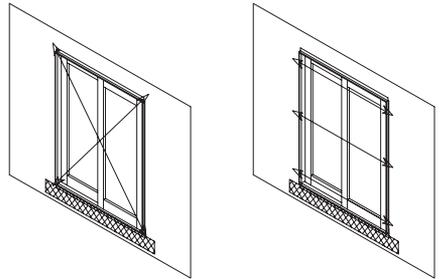

Figure 8
9. With the door set into the rough opening, check to make sure it is centered. Tack the door in place with one 1-1/2" stainless steel screw (or equivalent) in the top nailing flange within 3" - 6" of each corner. Make sure that the sill is straight, flat and level. Use a tape measure to check the diagonal dimensions of the frame to ensure the frame is square (see figure 8). Diagonal measures should be within 1/8". This measure should be double-checked by using a framing square. Shim at the top of the side jambs as required. Use a level or straight edge to ensure the jambs are straight. Also, check frame width across top, middle and bottom. Width measures should be within 1/16".